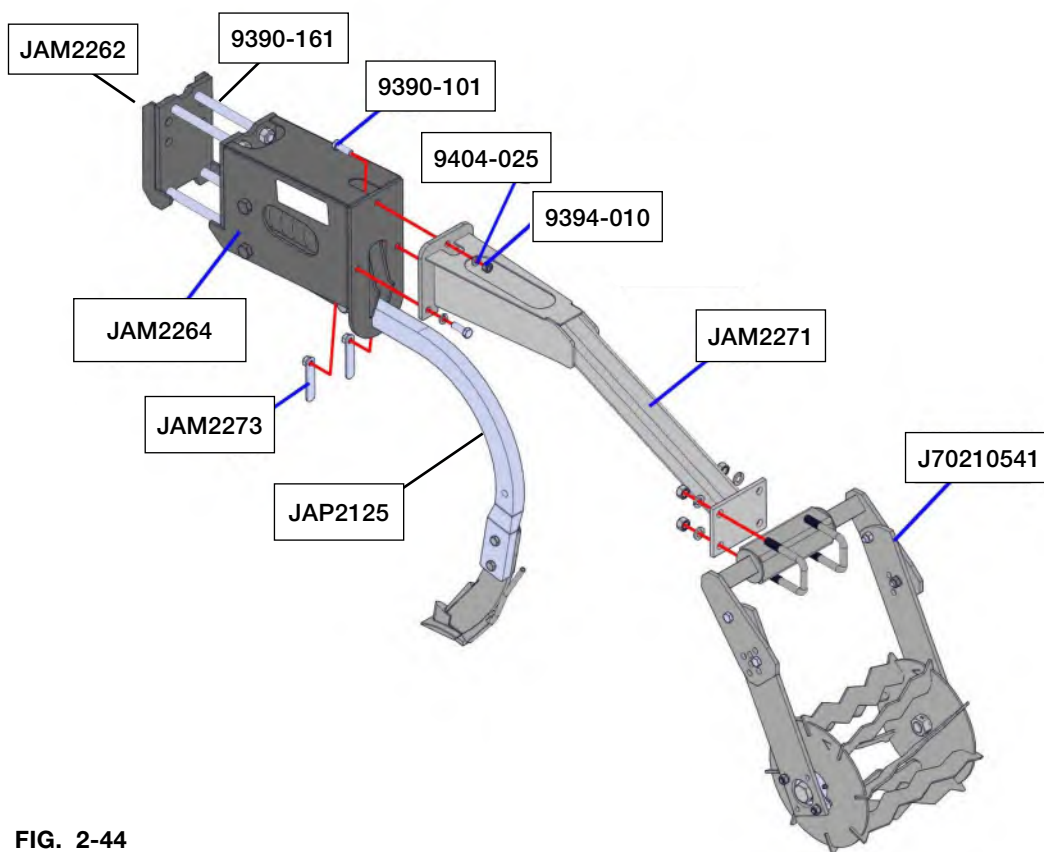

FIG. 2-44
1. Using a safe lifting device rated at a minimum of 150 lbs., secure MaxPac row unit (JAM2264) with 1 1/4" x 2" EdgeBent shank (JAP2125) with backing plate (JAM2262), 3/4"-10UNC x 8" capscrews (9390-161) 3/4" lock washers (9404-033), and 3/4"-10UNC hex nuts (9394-016). (FIG. 2-44)
2. Using a safe lifting device rated at a minimum of 100 lbs., secure MaxPac basket mount weldment (JAM2271) and torsion arm assembly (J70210641) to the MaxPac row unit (JAM2264) with two nut plate weldments (JAM2273), one 1/2"-13UNC hex nut (9394-010), three 1/2" lock washers (9404-025), and three 1/2"-13UNC x 1 1/2" capscrews (9390-101). (FIG. 2-44)